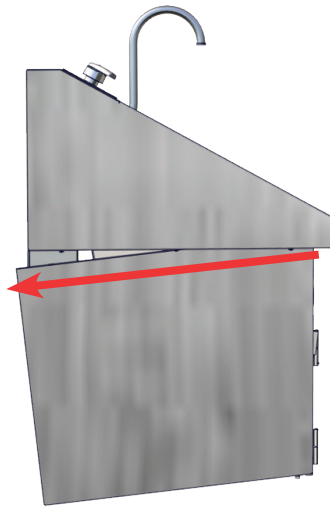

Fig. 9:Tilt Sink Base
8. Tilt the sink base downwards towards the back so that the lip of the front panel of the base slides off the bottom shroud (Fig. 9).